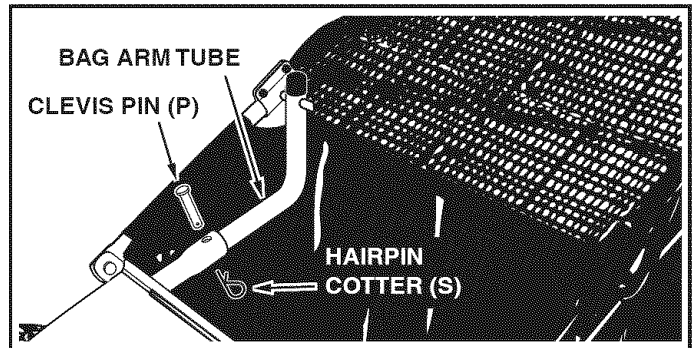

FIGURE 22
- To attach the hopper bag to the sweeper, slide the ends of the bag arm tubes into the ends of the hitch tubes and secure with two clevis pins (P) and hairpin cotters (M). See figure 22.